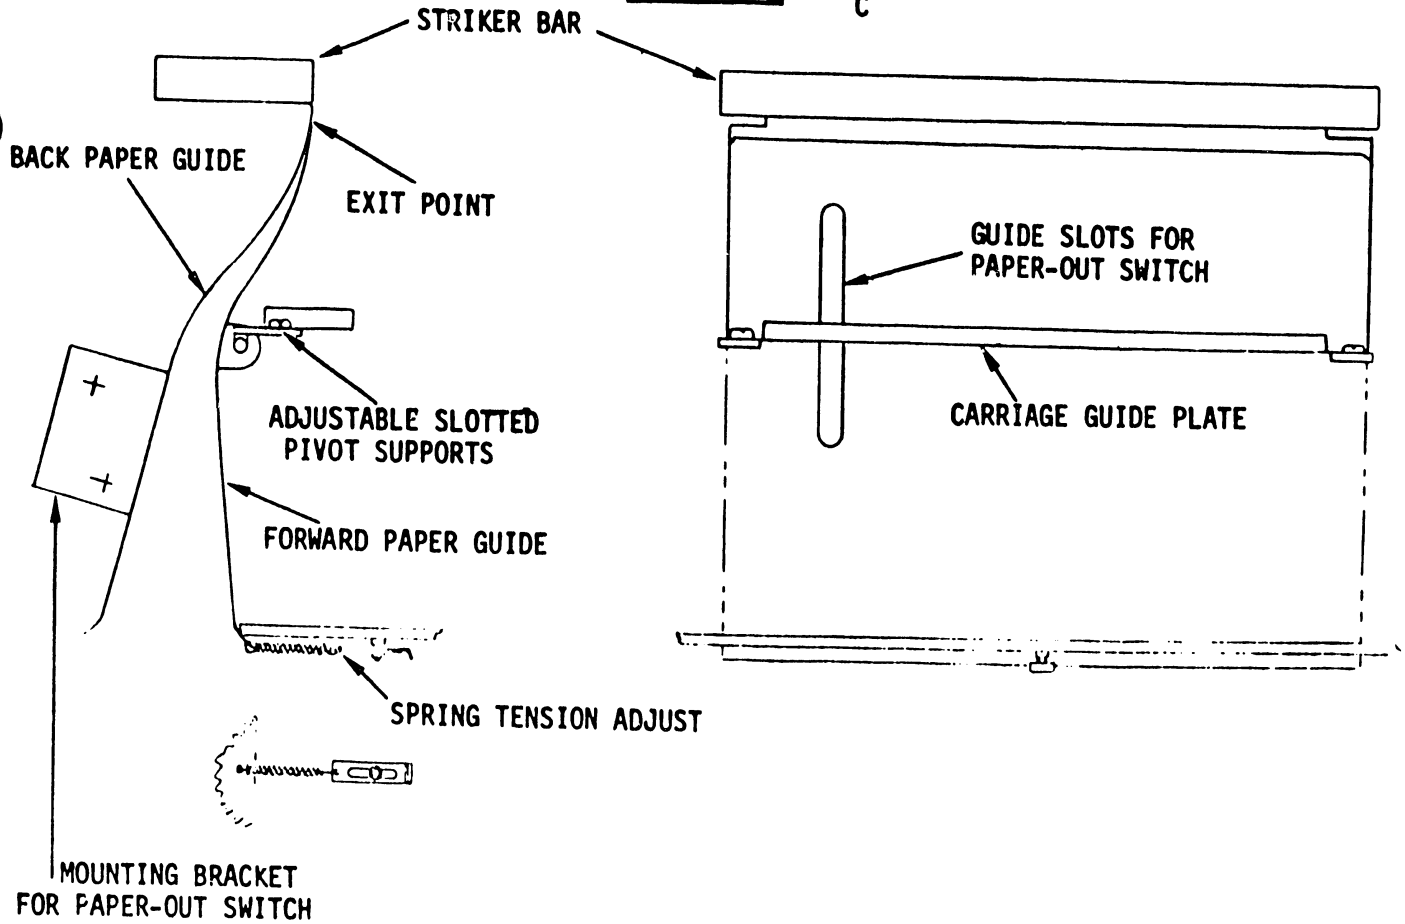

FIGURE 5-6 MODEL 72 PAPER GUIDE DESIGNS
- 1) The adjustable paper guide must be parallel to the striker bar across the entire bar for all three versions. (See Figure 5-6.)
The late model has a bottom paper feed system. See Figure 5-6. Like the early models there is a fixed and adjustable guide but they are shaped differently. The exit point is the only contact surface between the guides and the paper feed resistance should be uniform along the width of the paper. Due to the change in the shape of the guides there is no gap clearance provided. The self-locking effect in the curved early models has been eliminated. Insure guide parallelism with the striker bar.